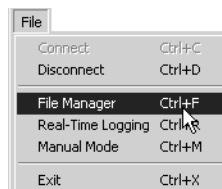

Figure 4-3. File->File Manager
3. Click **File->File Manager** (Figure 4-3).